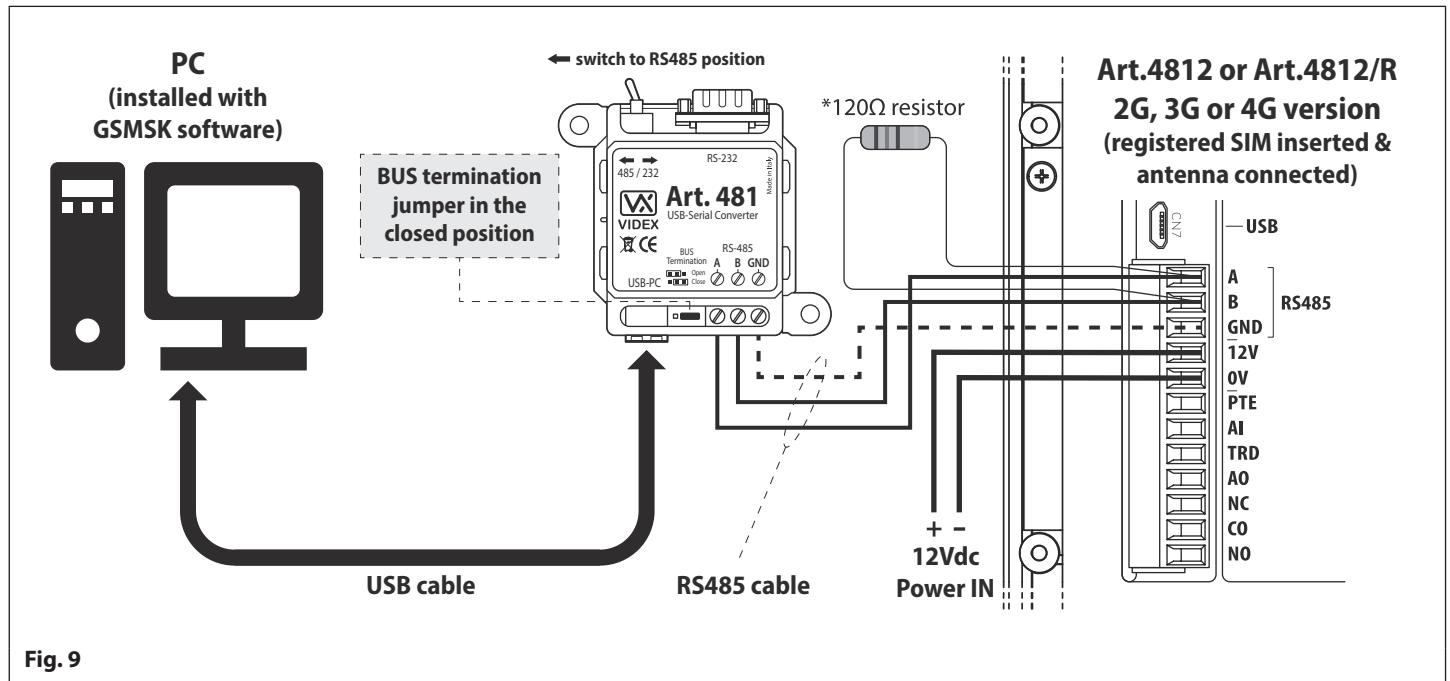

Fig. 9
The **digital GSM** intercom can also be connected using an RS485 bus connection via an RS485 to USB converter (**Art.481**) as shown in **Fig.9**. This method of connection, like option 1, can be used for programming and setup of the **digital GSM**, but can also be used in instances where a permanent connection to a PC is required for monitoring purposes and downloading event logs.
*For end of line termination a 120Ω resistor must be fitted across the RS485 terminals A and B, as shown in **Fig.9** above, but only if the **digital GSM** (2G, 3G or 4G) is the last device in line and over a great distance (500m max.). Over shorter distances (up to 100m) the 120Ω resistor is not required and the bus termination jumper on the **Art.481** can be set to the **OPEN** position.